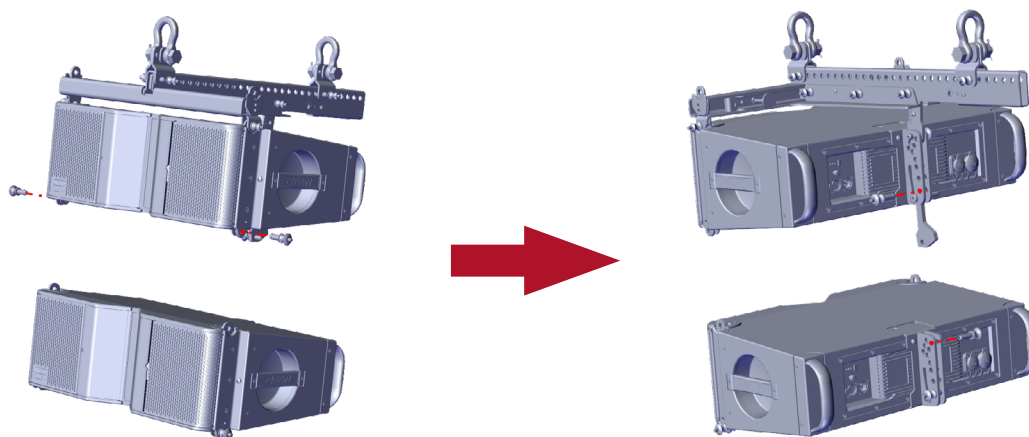

Figure 4
- Verify front rigging pins are secure, then swing the rear rigging of the top cabinet down into the rigging assembly of the bottom cabinet. Pin angle using pin from the bottom cabinet (Figure 4). Lock into place by using the angle lock of the top cabinet.